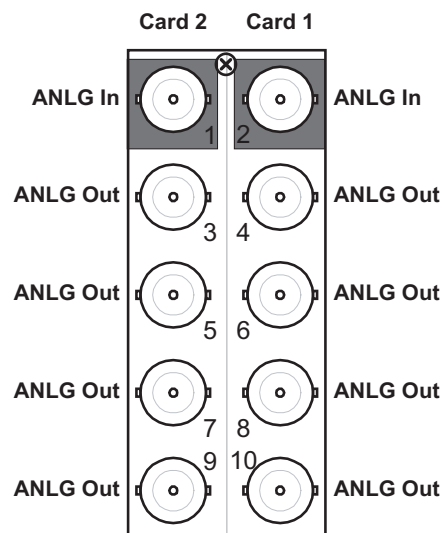

Figure 2.3 Cable Connections for the 8320AR-031 Rear Module
- **8320AR-031** Split Rear Module — Each rear module occupies two slots and accommodates two cards in the DFR-8321 or OG3-FR series frames. This rear module provides one analog video input, and four analog video outputs per card. Refer to **Figure 2.3** for cable connections.